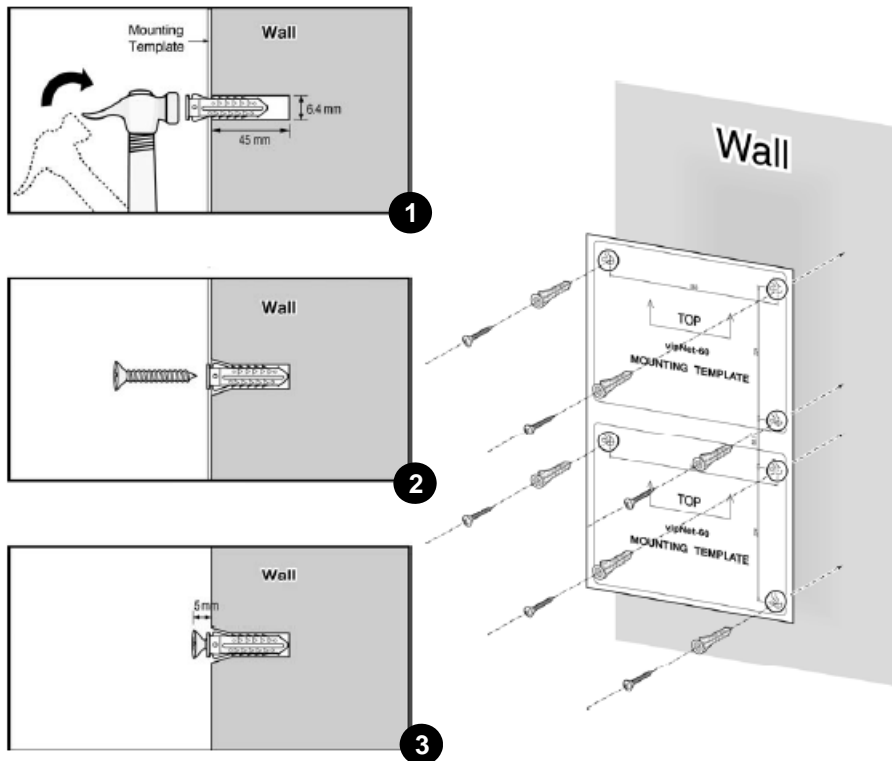

Figure 3-11 EKSU Mounting Template
2. Install three (3) anchor plugs into the wall using the mounting template included for accurate placement. The KSU can be mounted either vertically or horizontally.
3. Screw the included three (3) screws into the three (3) anchor plugs (as shown in Figure 3-11).